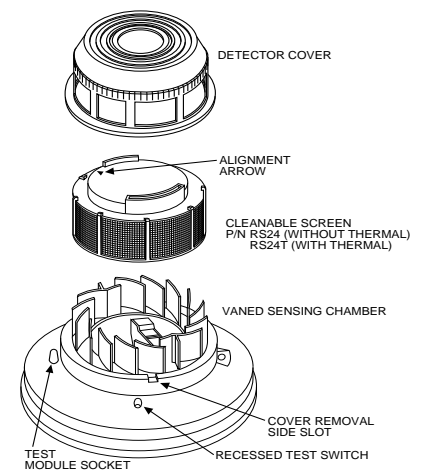

Figure 6.
3. The detector cover is removed by inserting a small standard blade screwdriver in the side slot of the cover (Figure 6). Rotate the screwdriver slightly until the cover can be turned counterclockwise and removed.